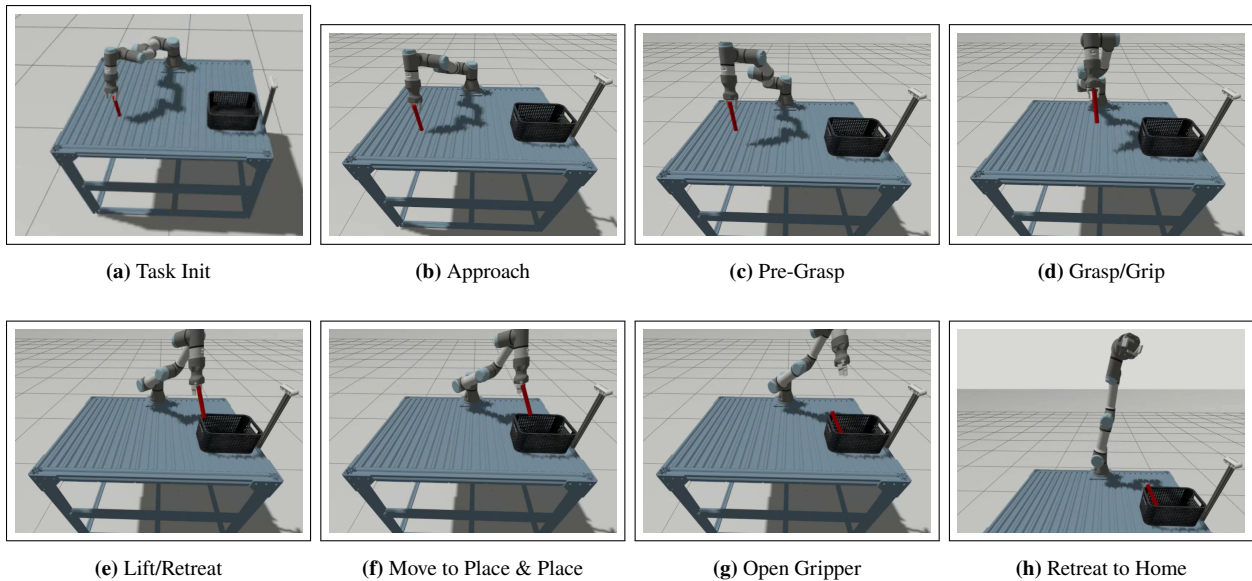

Figure 1: Exercise 1: Task phases of the object relocation task visualized in simulation.
If everything functions correctly, you should now observe a complete pick-and-place cycle executed autonomously in simulation. The pick-and-place node will also print output to the terminal reporting successful task execution for each object relocation subtask along (the following will only be recorded at the END of the task). See Figure 1 for a screenshot of the robot at various stages of the task.
- The robot at the approach and place configurations in Gazebo (see Figure 1).